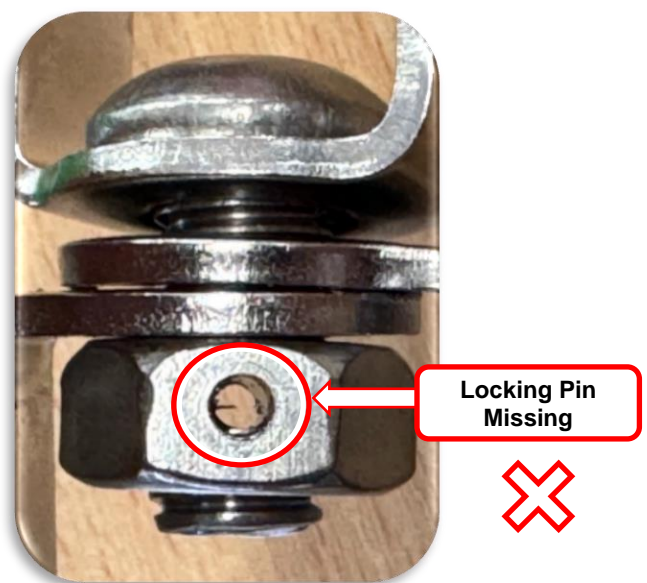

Figure 4: Locking Pin Missing
- b. Locking pin is not present (Figure 4) – remove the product from service and follow the procedure below for a replacement unit.